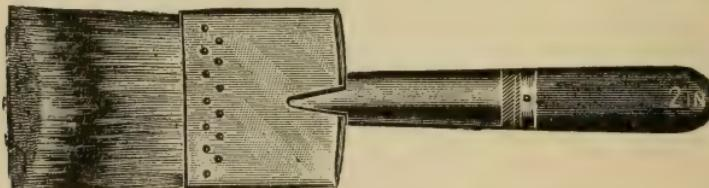
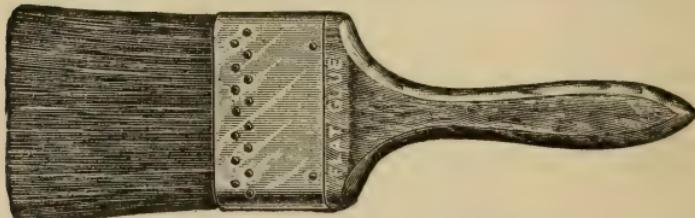

Fig. 11—Round Glue Brushes, Gray Bristles.
Fig. 12—Flat Glue, Gray Bristles.
*j. Glue brushes* are usually metal bound and well set. They run in sizes from 000 to No. 4 or from  $\frac{5}{8}$  inch to  $1\frac{1}{2}$  inch in diameter. See Fig. 11. They are also made flat, metal bound, and from 1 inch to 6 inches wide. The flat brushes are also made chisel edged. See Fig. 12.